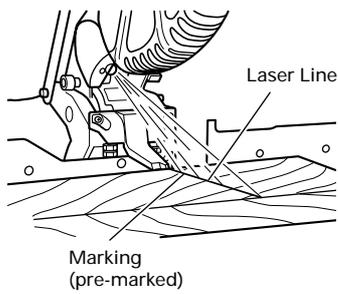

Fig. 17
- (3) After adjusting the position of the laser line, draw a right-angle ink line on the workpiece and align the ink line with the laser line. When aligning the ink line with the laser line, slide the workpiece little by little and secure it by vise at a position where the laser line overlaps with the ink line. Work on the grooving again and check the position of the laser line. If you wish to change the laser line's position, make adjustments again following the steps from (1) to (3).
**NOTE:** Check and make sure on a periodic basis if the position of the laser line is in order. As regards the checking method, draw a right-angle ink line on the workpiece with the height of about 1-1/2" (38mm) and the width of 3-1/2" (89mm), and check that the laser line is in line with the ink line [The deviation between the ink line and the laser line should be less than the ink line width (0.5mm)]. (Fig. 17)